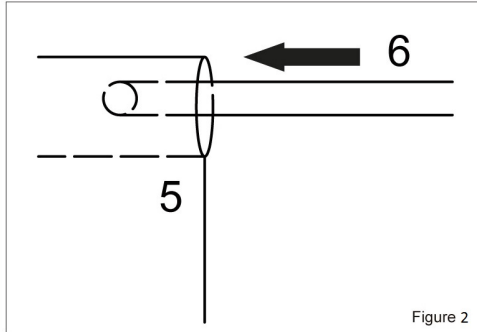

Figure 2
**Figure 2** shows the front view revealing the suggested awning height and the wall bracket locations.